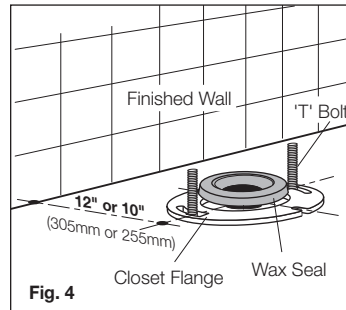

Fig. 4
- 2- Position 'T' bolts and wax seal onto closet flange, as detailed in **Fig. 4**.